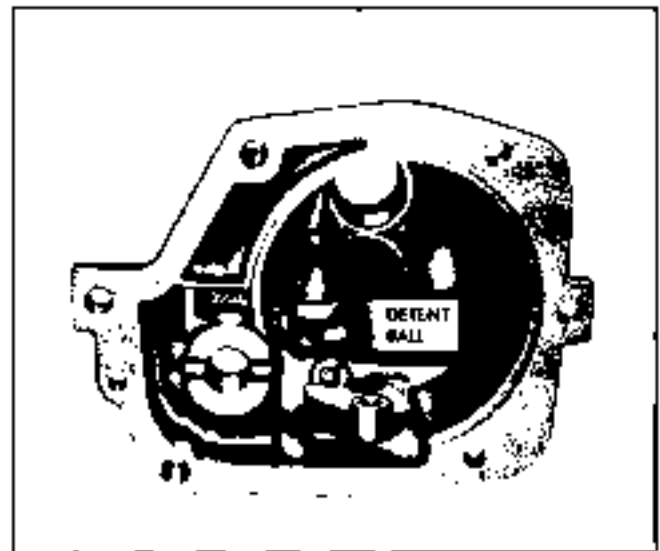

Fig. 7D-17 Installing Reverse Shifter Shaft and Detent Ball
13. With soft hammer, tap main drive gear down from front bearing as shown in Fig. 7D-12.